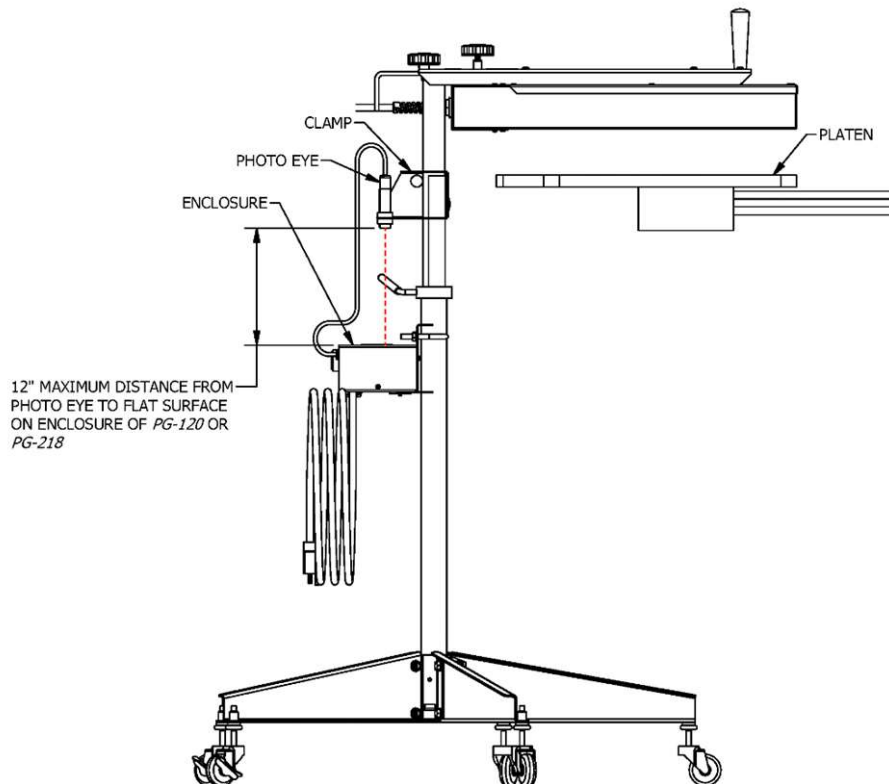

FIGURE 2
1. After mounting the **PHOTO EYE**, position the **HEATER, ENCLOSURE**, and **CLAMP** as shown in FIGURE 2.
6. Position the **HEATER** as shown in FIGURE 2 for the proper function of **PG-120/PG-218**. When the **HEATER** is over the **PLATEN**, the **PHOTO EYE** needs to be aligned over the **ENCLOSURE**.